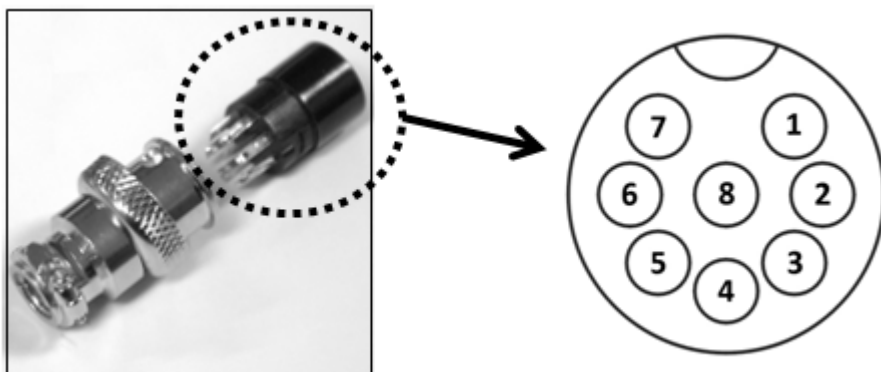

Figure 5 - Pin Numbers
- (b) Solder 5 wires (22AWG) to pins 1, 2, 3, 4, and 5 of pin plug. Refer to Figure 5 for pin numbers.